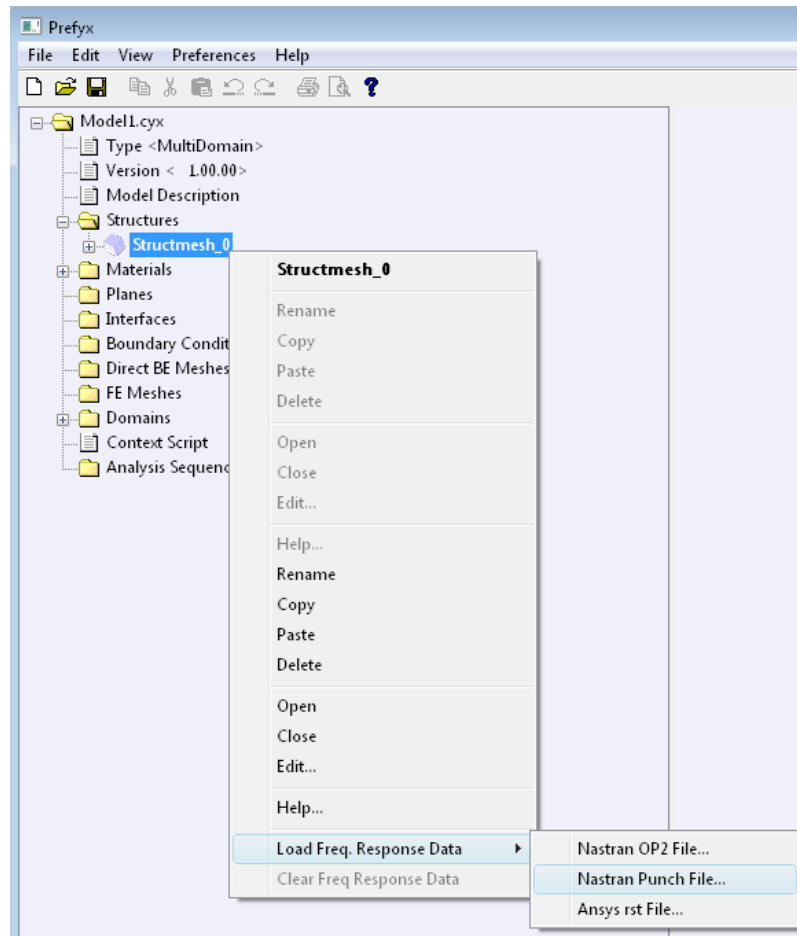

Figure A.6 Load frequency response data into Coustyx.
- Right-click on **Structmesh_0** or *<Struct Mesh Name>* and select: **Load Freq Response Data** → **Nastran Punch File...** (as shown in Figure A.6). The other valid data formats from which frequency response data can be loaded into Coustyx are **Nastran OP2 File** and **Ansys rst File**.